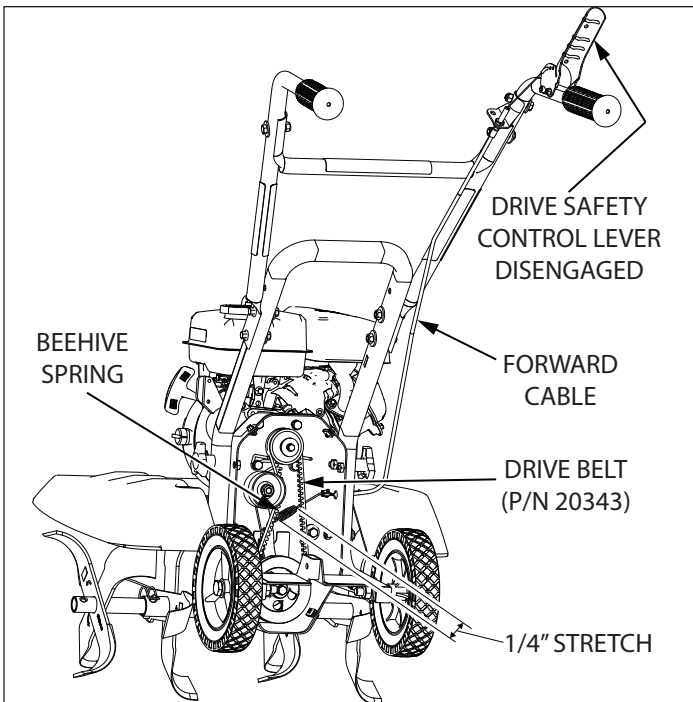

FIGURE 17
5. Pull down on drive safety control lever and measure length of spring when extended. Ideal length would be 1/4" longer. **SEE FIGURE 17**